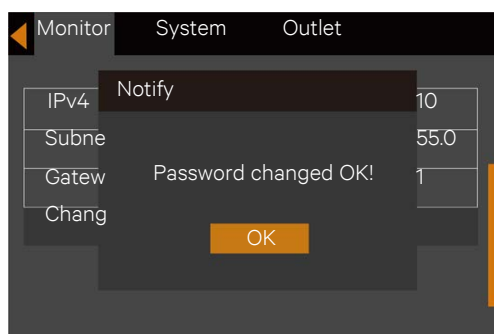

Figure 5-25 Password changed OK
6. After the confirmation, press the  key and at this point system prompt a dialog box indicating that the password has been changed successfully see Figure 5-25.